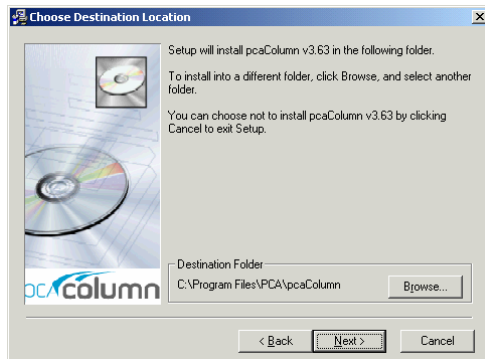

Figure 1-5. Choose Destination Location
7. The next setup is to decide the directory where pcaColumn is to be installed as shown in Figure 1-5. The default directory is C:\Program Files\PCA\pcaColumn. You may press the BROWSE button to locate the directory. If the directory does not exist, the setup program will create it. Press the NEXT button to go to the next step.